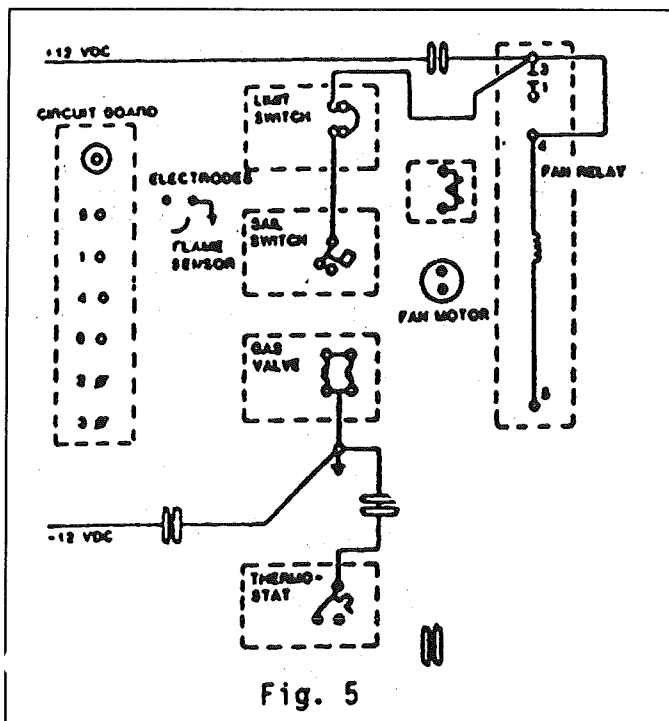

Fig. 5
- A. On stand-by the +12 VDC is connected to terminal #3 of the fan relay which is closed. The voltage will extend (1) through the red wire to terminal #1 of the open fan relay, (2) through another red wire to the limit switch, (3) through the limit, (4) through the red wire to the sail switch. See Fig. 5.